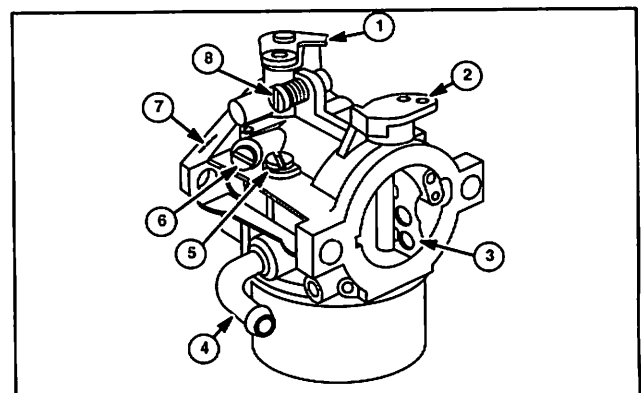
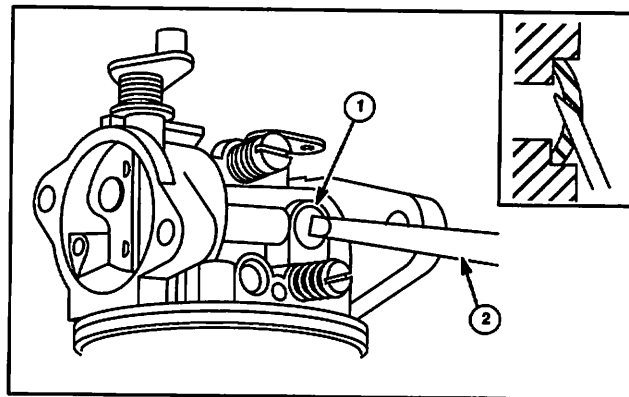

Fig. 98
Fig. 99
LMT carburetors have a Fixed Orifice Main Jet with Adjustable Idle Jet, Fig. 98. The different carburetors are identified as LMT 1 and up or by six (6) digit number. The letters LMT are cast into the body of the carburetor while the numbers are stamped into carburetor mounting flange next to idle mixture screw.
3. Remove float hinge pin, float, and inlet valve (4).
4. Remove idle mixture screw with spring (6) and idle speed screw with spring (8). (Remove mixture screw limiter cap, if so equipped.) Fig. 98. Pilot jet (5), I.D. number (7), Fig. 98.
5. Rotate throttle shaft (1) to closed position and remove throttle plate screw(s).
8. With a modified 5/32 inch (9.39 mm) pin punch (2), remove welch plug(s) (1) from carburetor body, Fig. 99.
- a. Plastic shaft (2) with snap in choke plate (3)
- b. Metal shaft (2) with screw mounted choke plate (3), Fig. 98.